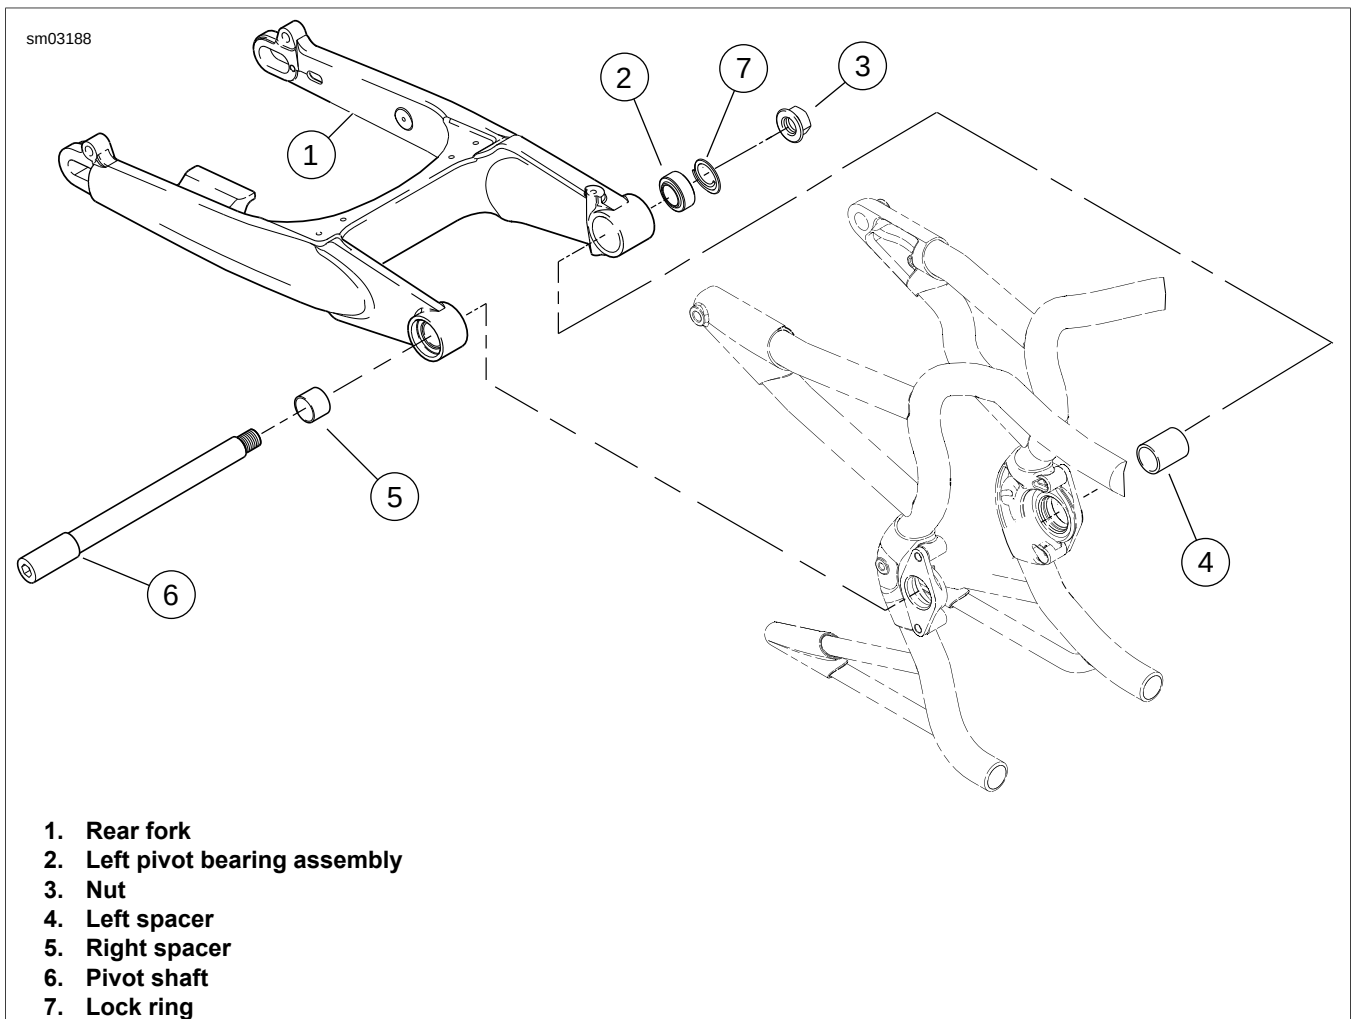

Figure 2-126. Rear Fork (typical)
6. See Figure 2-126. Remove pivot shaft nut (3).
7. Support rear fork (1) and slide pivot shaft (6) out. Rear fork can now be removed from frame.
7. See Figure 2-126. From right side, slide pivot shaft (6) through dust seals, rear fork pivot bearing, bushing and engine mounts, spacers.